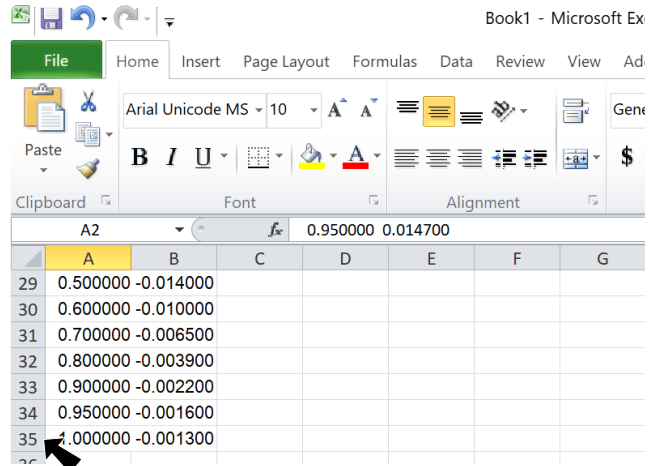

Fig. 4
Step 2. You can scroll to bottom and confirm 35 rows, Fig. 4.